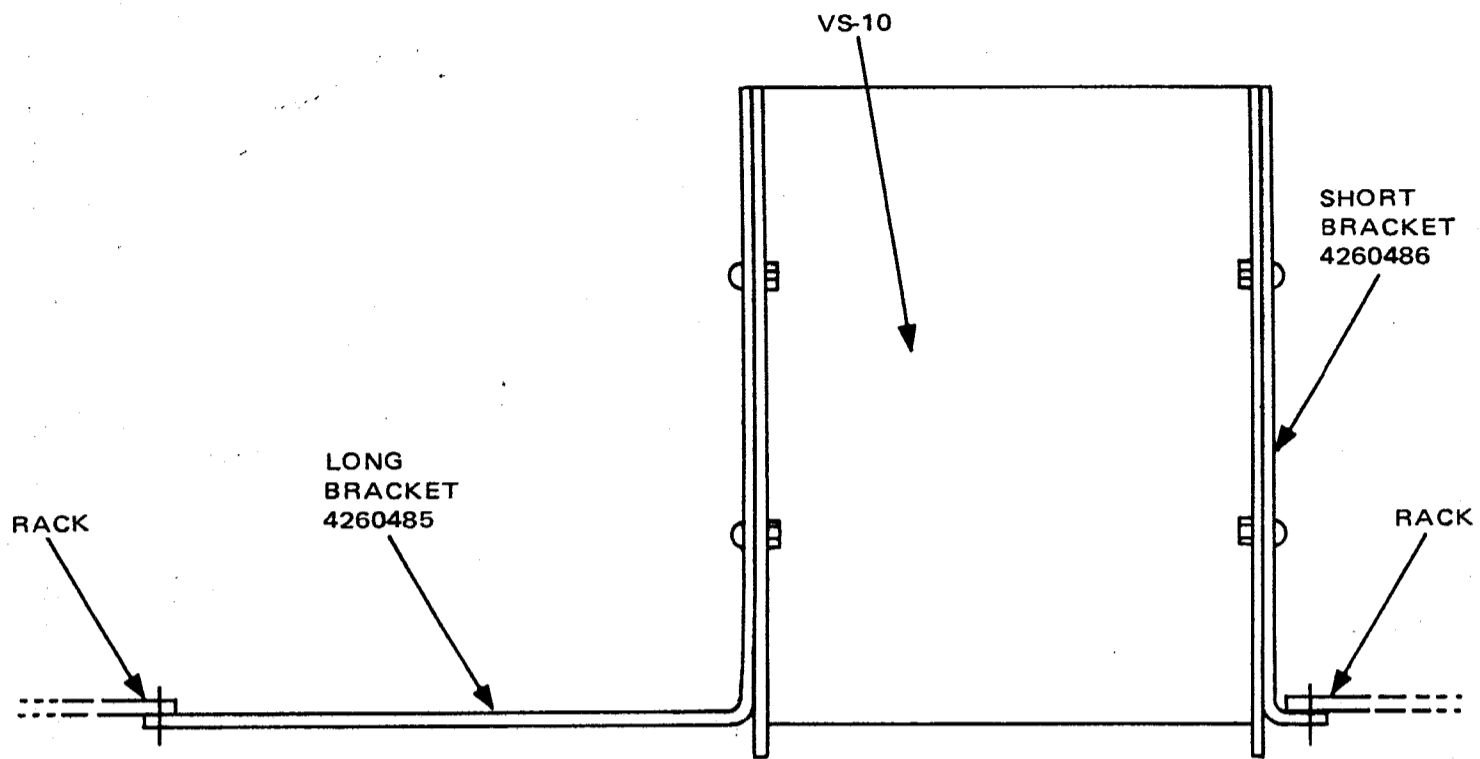

Figure 5. Single-Mount Installation, Top View
3. Fasten the long and short bracket to the side panel of the VS-10 housing using the No. 6 screws and nuts, furnished in the kit. See Figure 5. If desired, the VS-10 may be mounted in the left-hand position by
reversing the position of the long and short bracket from that shown in Figure 5.